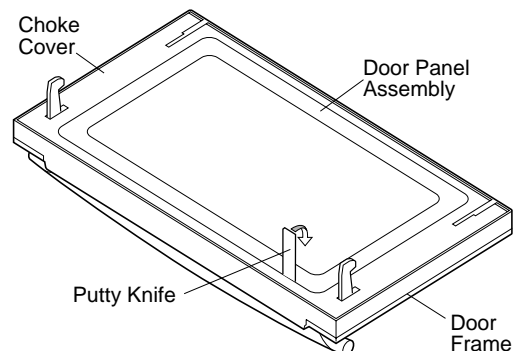

Figure C-5. Door Disassembly
5. Insert a putty knife (thickness of about 0.5 mm) into the gap between the choke cover and the door panel assembly as shown in Figure C-5.